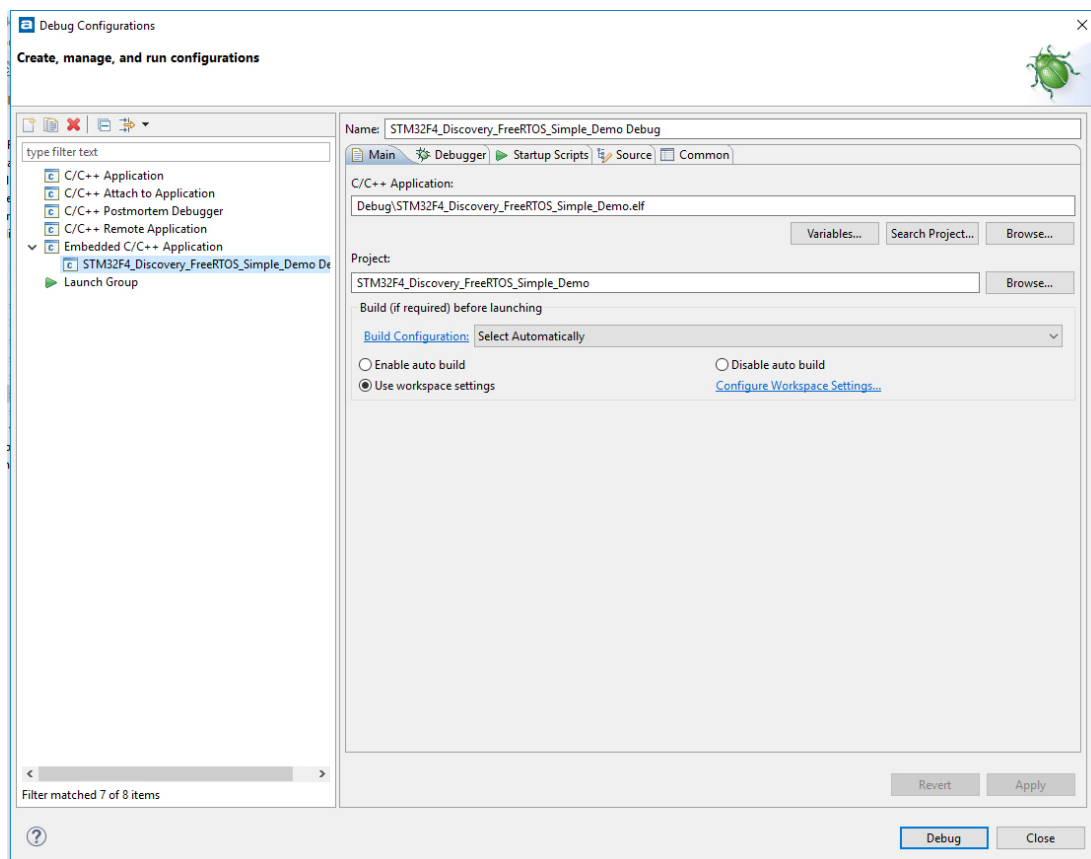

Figure 3. Debug configuration window.
16. Now you are all set to start debugging the code. From the **Run menu** select **debug configurations**. On the left panel, under **Embedded C/C++ Application**, there is a debug configuration with the same name as the project's. select the debug configuration as in Figure3.